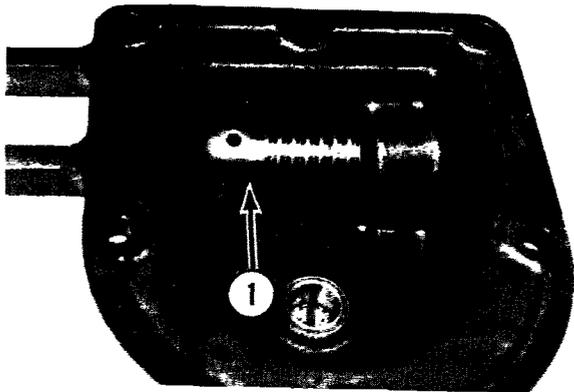

Fig. 2-32
- (13) Remove the bowl drive worm (1, Fig. 2-32).
- (13) Install the worm (1, Fig. 2-32) in the gear case. Install the shaft and bearing assembly in the gear case. NOTE: The end of the shaft passes through the worm and is located in the needle bearing. Care should be taken that the oil seal is not damaged while installing the shaft.
- (14) Align the holes in the worm and shaft. Drive in the rollpin.